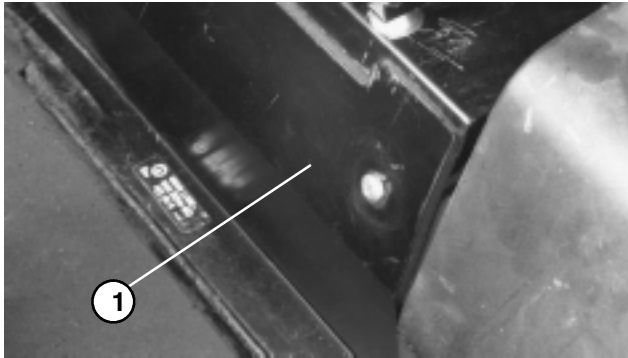

Figure 5
(Fig. 5 & 6)
2. Remove access panel (Fig. 5), in front of seat, to expose front axle / dipstick.